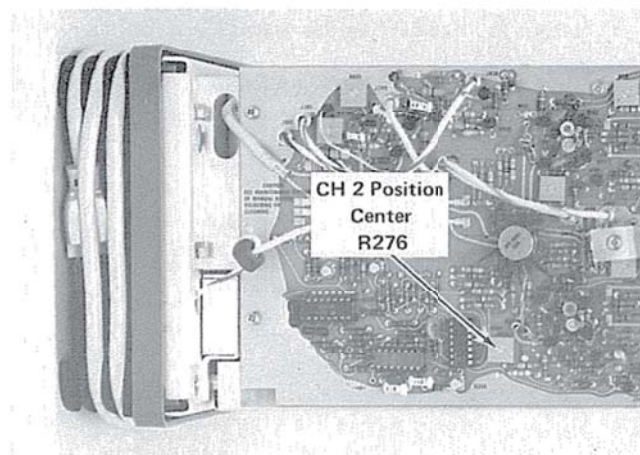

Fig. 5-11. Location of CH 2 Position Centering adjustment.
- d. ADJUST—CH 2 Position Centering adjustment, R276 (see Fig. 5-11), so the top of the CRT display can be positioned below the center horizontal graticule line, and the bottom of the display can be positioned above the center horizontal graticule line.